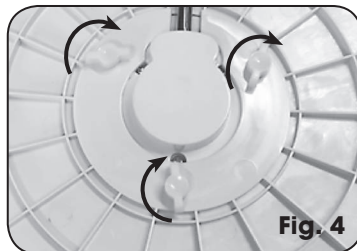

Fig. 4
5. Secure base stand piece with 3 of the fastening screws. (See Fig.4).